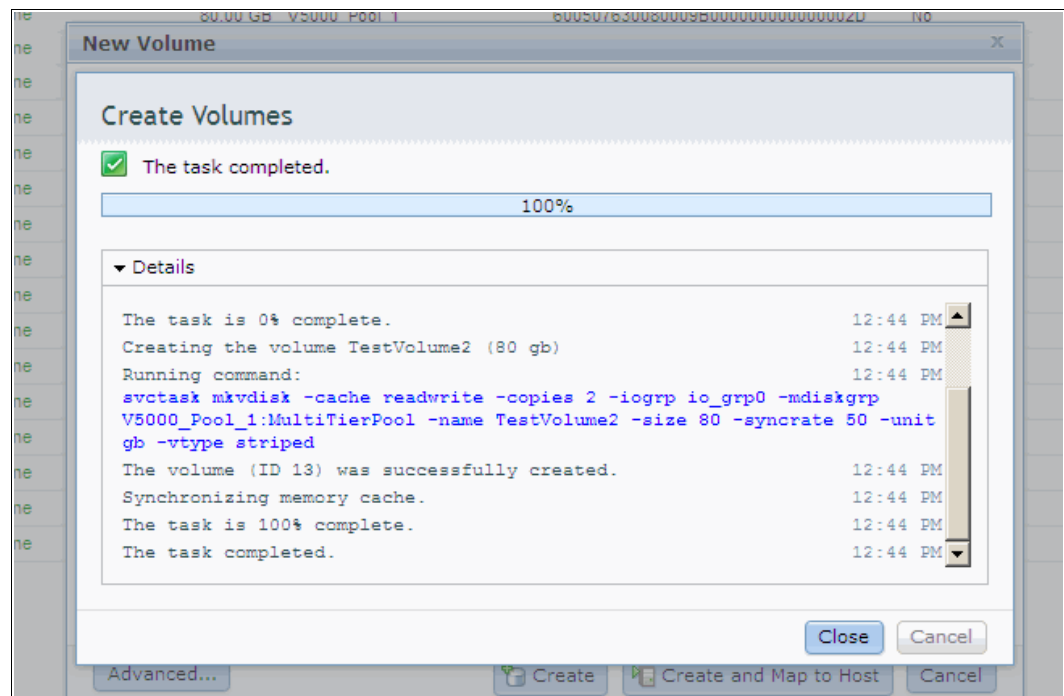

Figure 5-16 Mirrored volume task complete
- Click **Create and Map to Host** and the mirrored volume is created, as shown in Figure 5-16. If you do not want to map the hosts, click **Create** to complete the task and exit to the GUI.